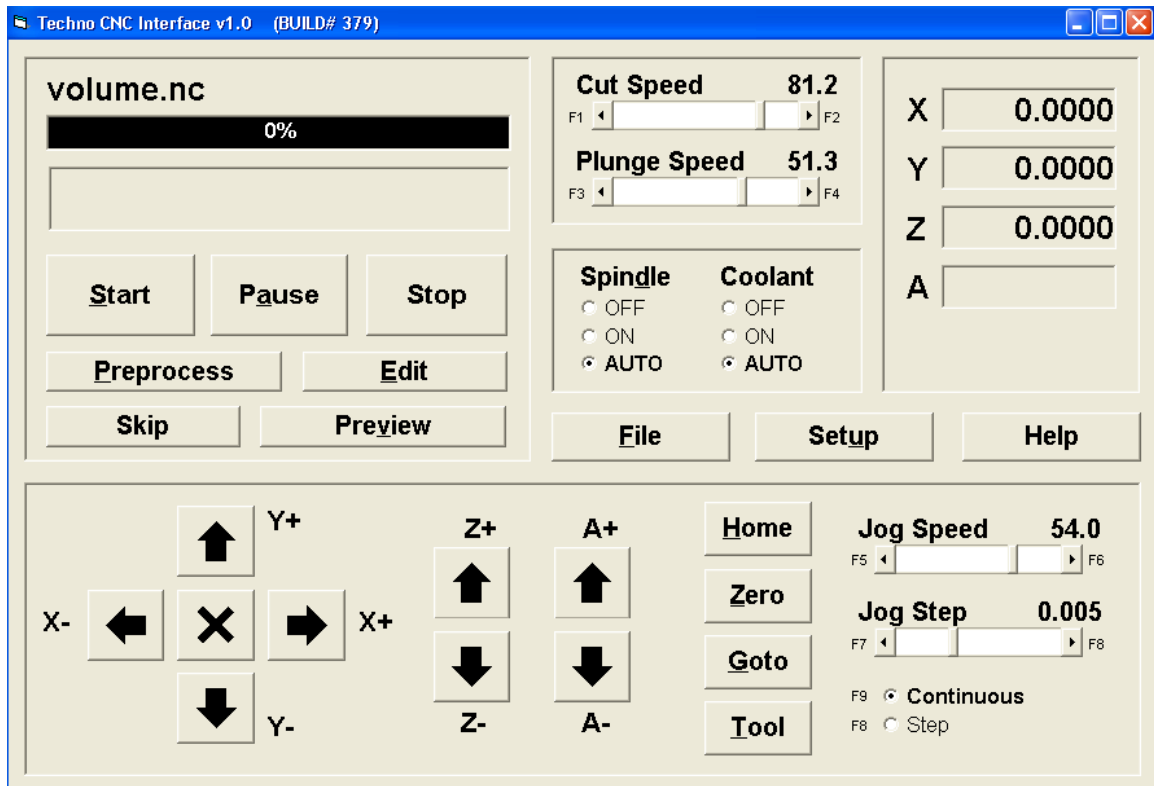

Figure 3: The user interface
2. On the PC nearest the CNC cell in use, double click the "Techno CNC Interface" icon located on the desktop. This will launch the user interface (Figure 3) through which you will load, control, and execute the .nc files you create.